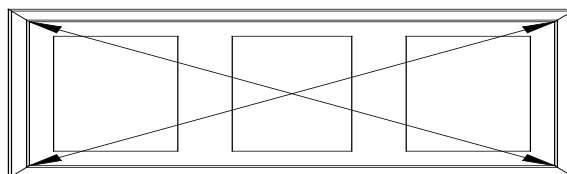

FIGURE 1.
- b) A diagonal measurement must be within 1/8” of being equal before fastening top of frame. (Figure 1). A frame out of square can result in a door sag or improper closing.
- b) Seat the self closing wheel into hinge housing (Kwik Torque). The weight of the door will now be resting on the frame. (Figure 1)